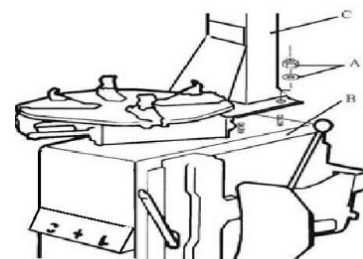

Fig.3
2. Unscrew the nut A on the cabinet body B as shown in **Fig.3**.